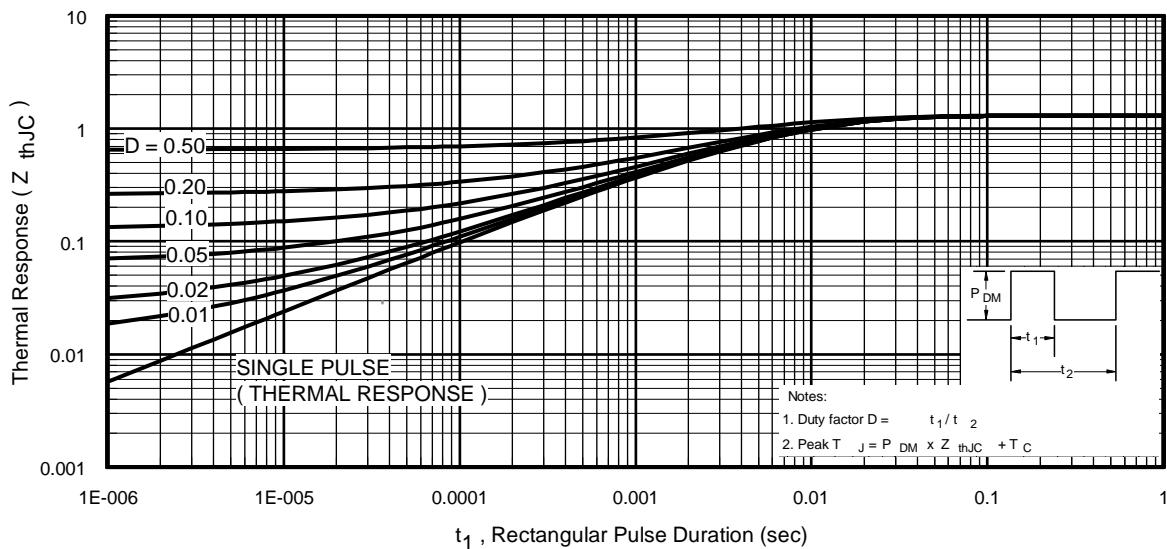
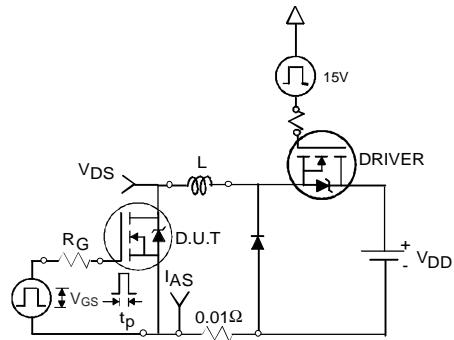

Fig 11. Maximum Effective Transient Thermal Impedance, Junction-to-Case
Fig 12a. Unclamped Inductive Test Circuit
3. Equation below based on circuit and waveforms shown in Figures 12a, 12b.
$Z_{thJC}(D, t_{av})$ = Transient thermal resistance, see figure 11)
- ① Repetitive rating; pulse width limited by max. junction temperature. (See fig. 11).
- ② Limited by $T_{J\max}$, starting $T_J = 25^\circ\text{C}$, $L = 0.71\text{mH}$, $R_G = 25\Omega$, $I_{AS} = 23\text{A}$, $V_{GS} = 10\text{V}$. Part not recommended for use above this value.
- ③ $I_{SD} \leq 23\text{A}$, $\text{di/dt} \leq 400\text{A}/\mu\text{s}$, $V_{DD} \leq V_{(\text{BR})DSS}$, $T_J \leq 175^\circ\text{C}$.
- ④ Pulse width $\leq 1.0\text{ms}$; duty cycle $\leq 2\%$.
- ⑤ $C_{oss\ eff.}$ is a fixed capacitance that gives the same charging time as C_{oss} while V_{DS} is rising from 0 to 80% V_{DSS} .
- ⑥ Limited by $T_{J\max}$, see Fig.12a, 12b, 15, 16 for typical repetitive avalanche performance.
- ⑦ This value determined from sample failure population. 100% tested to this value in production.
- ⑧ When mounted on 1" square PCB (FR-4 or G-10 Material). For recommended footprint and soldering techniques refer to application note #AN-994.